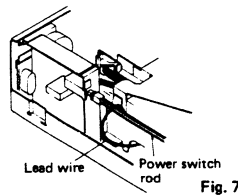

Fig. 7
- (1) Take care not to damage F.L.
- (2) When installing the power switch rod, set it through the lead wire as in Fig. 7.
- (3) When installing cabinet, take care not to squeeze the lead wire.